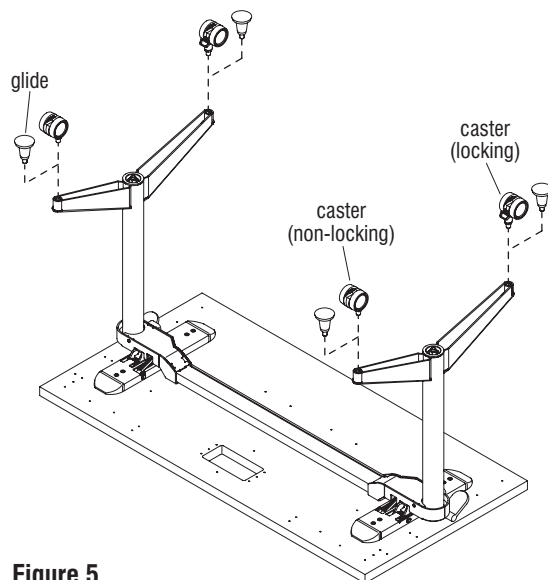

Figure 5
5. Locking and non-locking casters are provided. Locking casters are to be installed to the front, user side of each leg and non-locking casters should be installed to the rear of each leg. Use a 3/4" open end wrench to tighten casters to the foot of each leg (Figure 5).
6. To attach glides, thread stem into bottom of leg by hand (Figure 5).